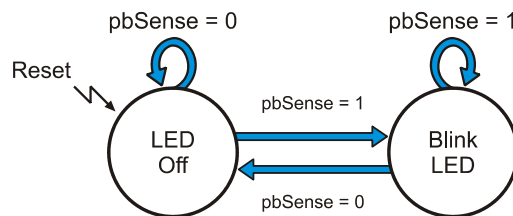

Figure 4-9
Figure 4-9 shows an example of a simple state diagram. Each circle signifies a state that the SumoBot can operate in. Both states are labeled, LED Off and Blink LED. Some of the arrows curve around and point back to the same state while other arrows point to the other state. These arrows represent state transitions. Each state transition arrow is labeled with a condition, like `pbSense = 0` or `pbSense = 1`. The reset condition is the arrow with the jagged shaft labeled Reset, and it indicates that this system will start in the LED Off state.
State diagrams can be visual aids for describing the different states in certain programs along with the conditions the programs use to transition from one state to the next. For example, `PushbuttonLed.bs2` can be thought of as the instructions to make the SumoBot a state machine implementation of Figure 4-9.
- ✓ Monitor the LED and Debug Terminal as you press and hold and then release the pushbutton on the SumoBot's breadboard. Do you agree that this program really does implement the state machine diagram in Figure 4-9? Is it the *only* way the figure can be implemented?
Here is the Main Routine from `FrontIrNavigation.bs2` (See Activity #2 in this chapter). If you rigidly adhered to the format from Figure 4-9 to make a state diagram for this code block, it would be pretty complicated. Certainly complicated enough to make it useless as a visual aid for designing more complex navigation routines.